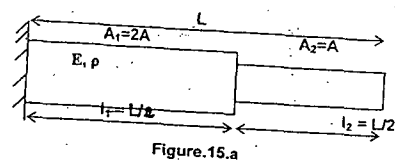

Figure. 15. a
- 15.b Find the natural frequencies of longitudinal vibration of the constrained stepped bar shown Figure 15. b. 16